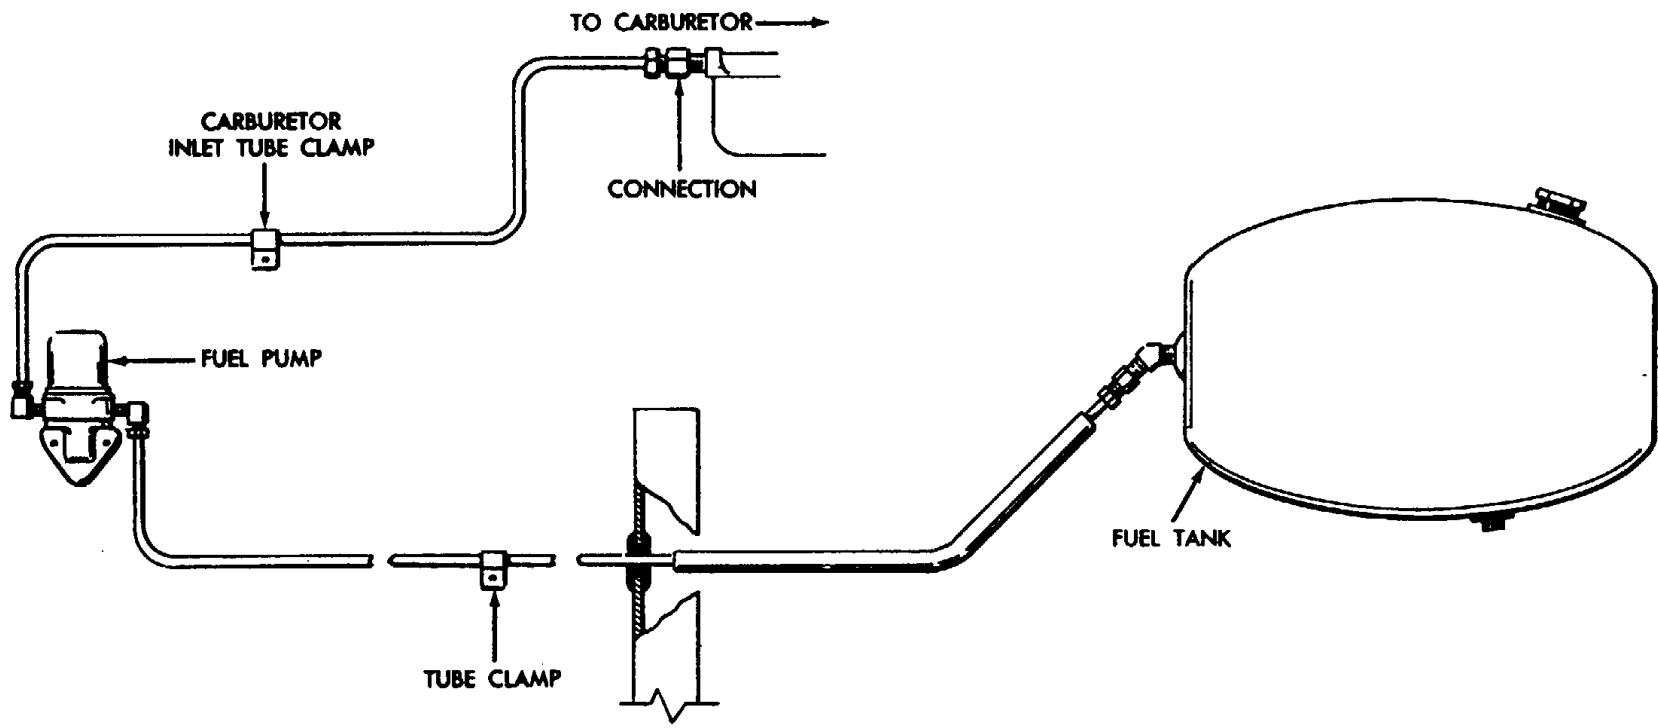

Figure 18. Diagram of fuel system.
The fuel system consists of a 42-gallon fuel tank, a single downdraft carburetor, a fuel pump, a double air filter to protect the intake from grit and dirt and a variable speed governor. Included are the necessary fuel lines from tank to pump and from pump to carburetor and the governor-to-carburetor connections. Figure 18 illustrates the fuel system schematically.
- a. Close the shutoff valve below the fuel tank, and disconnect the fuel line from the tube elbow below the tank (fig. 18).